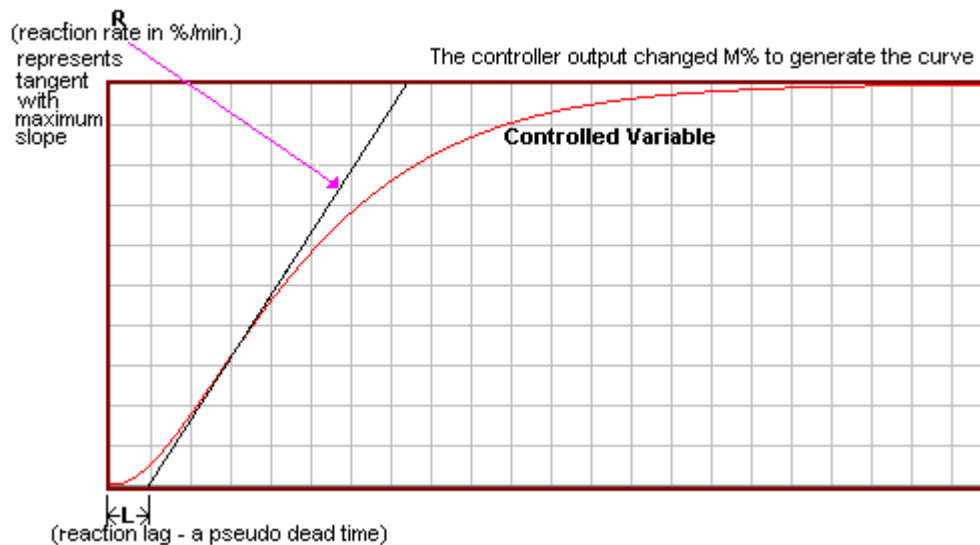

Fig. 6-5
**reaction lag** - Term used in Ziegler-Nichols open-loop method. This is the time between the start of the open-loop response curve and the intersection of a line that is tangential to the point of inflection of the response curve to a horizontal line, the vertical height of which is equal to the process variable before the step change. This concept is best illustrated in Fig. 6-5.
**reaction rate** - Term used in Ziegler-Nichols open-loop method. This is the slope of a line drawn tangentially to the point of inflection of the open-loop response curve. This concept is best illustrated in Fig. 6-5.